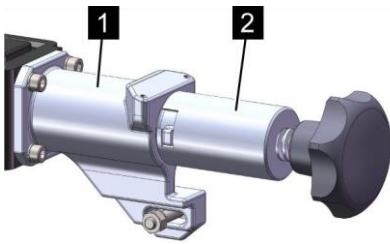

Fig. 77: Clamping device
17. ➤ Remove clamping device (Fig. 77/2) from the holder (Fig. 77/1).